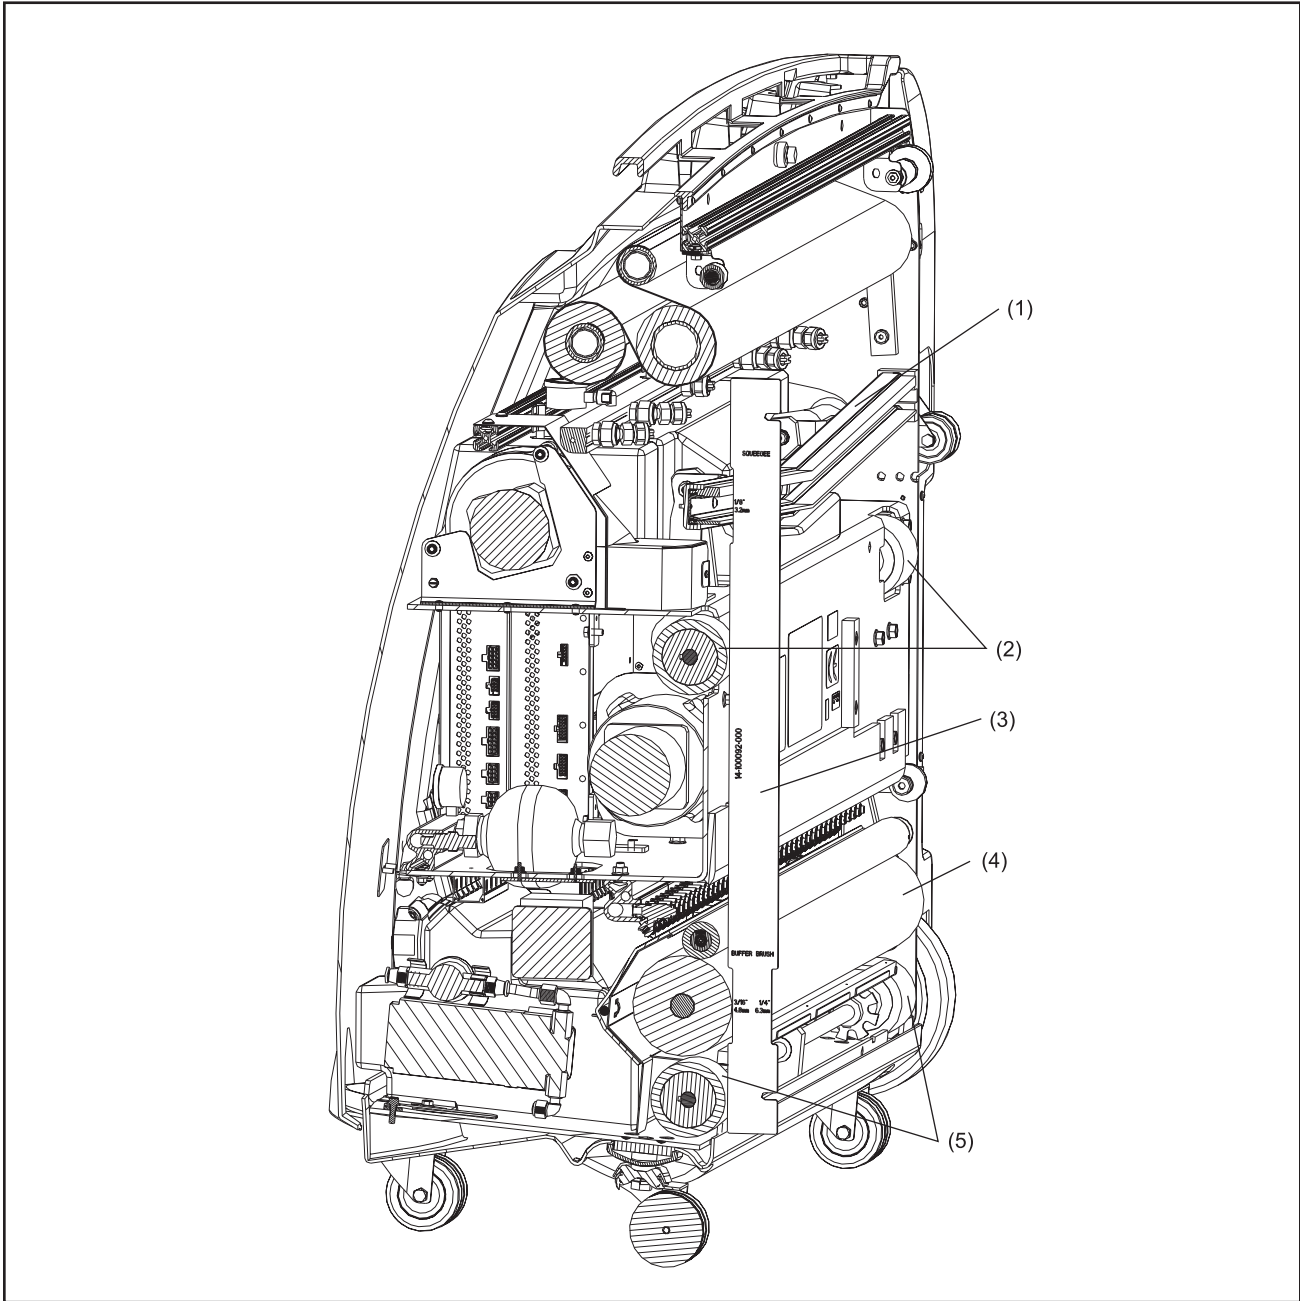

Figure 5-21. Adjustment Tool - Section View
(1) FOUR MOUNTING BOLTS
- Place adjustment tool (mounted inside the lane machine in front of the electronics enclosure) across the rear wheel and drive wheel on the 7-pin side of the machine. Refer to Figure 5-21.